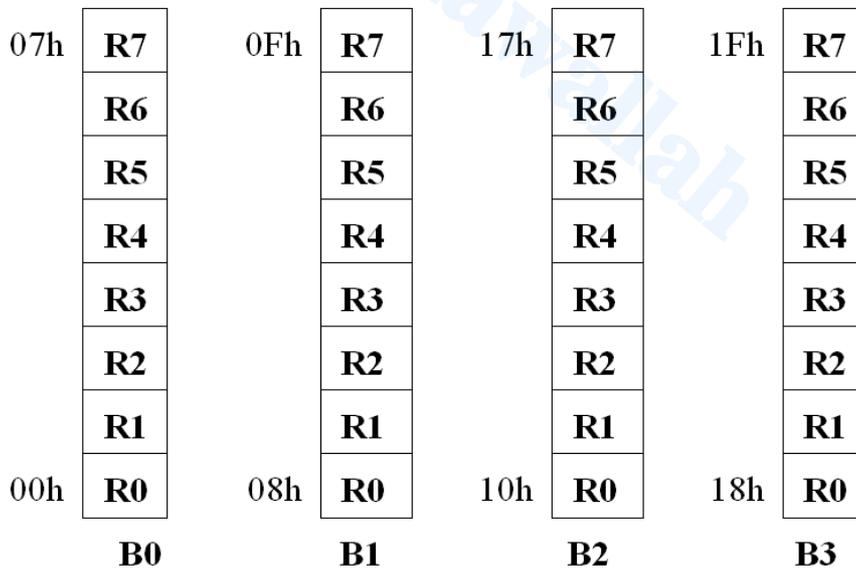

Fig. 5.6: Register banks and their memory locations in RAM.
The internal organization of RAM is shown in fig. 5.6. It consists of register banks (B0, B1, B2, and B3), bit-addressable area and scratch-pad area.
**Register Banks:** The RAM has four register banks (B0, B1, B2 and B3) and each contains 8-bit general-purpose registers R0-R7. The memory locations of these registers are shown in Fig. 5.6.